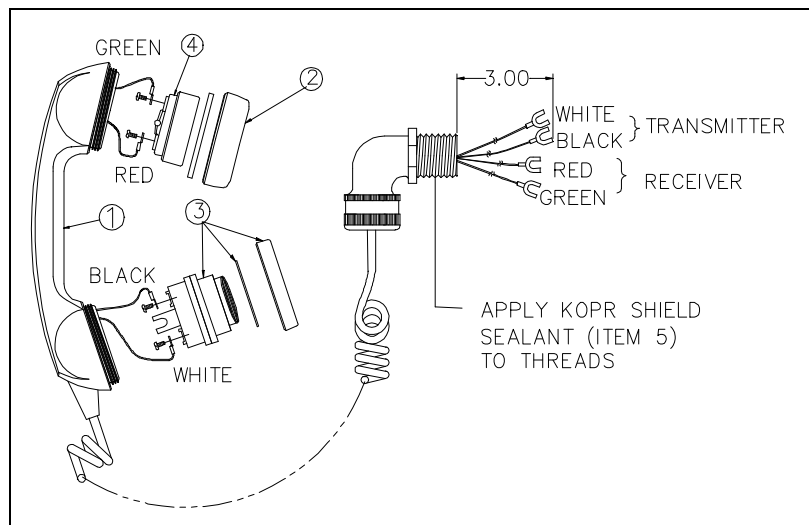

Figure 1. Replacement Handset with Cord
10. Reconnect the 4 handset wires on the barrier inside the front cover. Be certain to match the wire color to the terminal marking. See Figure 1.